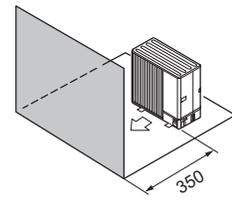

Fig. 2-12
- (4) Obstruction or closed surface at front only (Fig. 2-12)